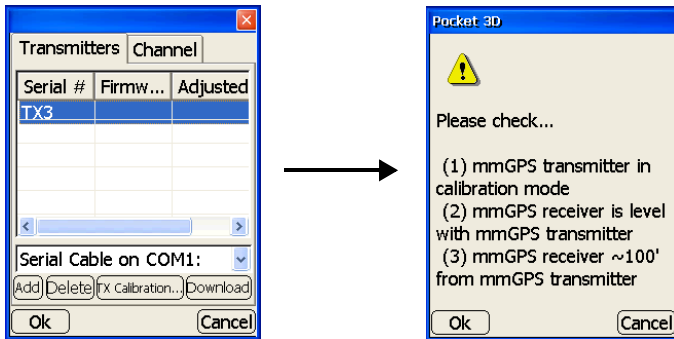

Figure 4-28. Begin Field Calibration Adjustment
5. In Pocket-3D, tap **Setup** ► **mmGPS transmitters** and press **TX Calibration** (Figure 4-28).
If indicated, check the setup listed on-screen (Figure 4-28).